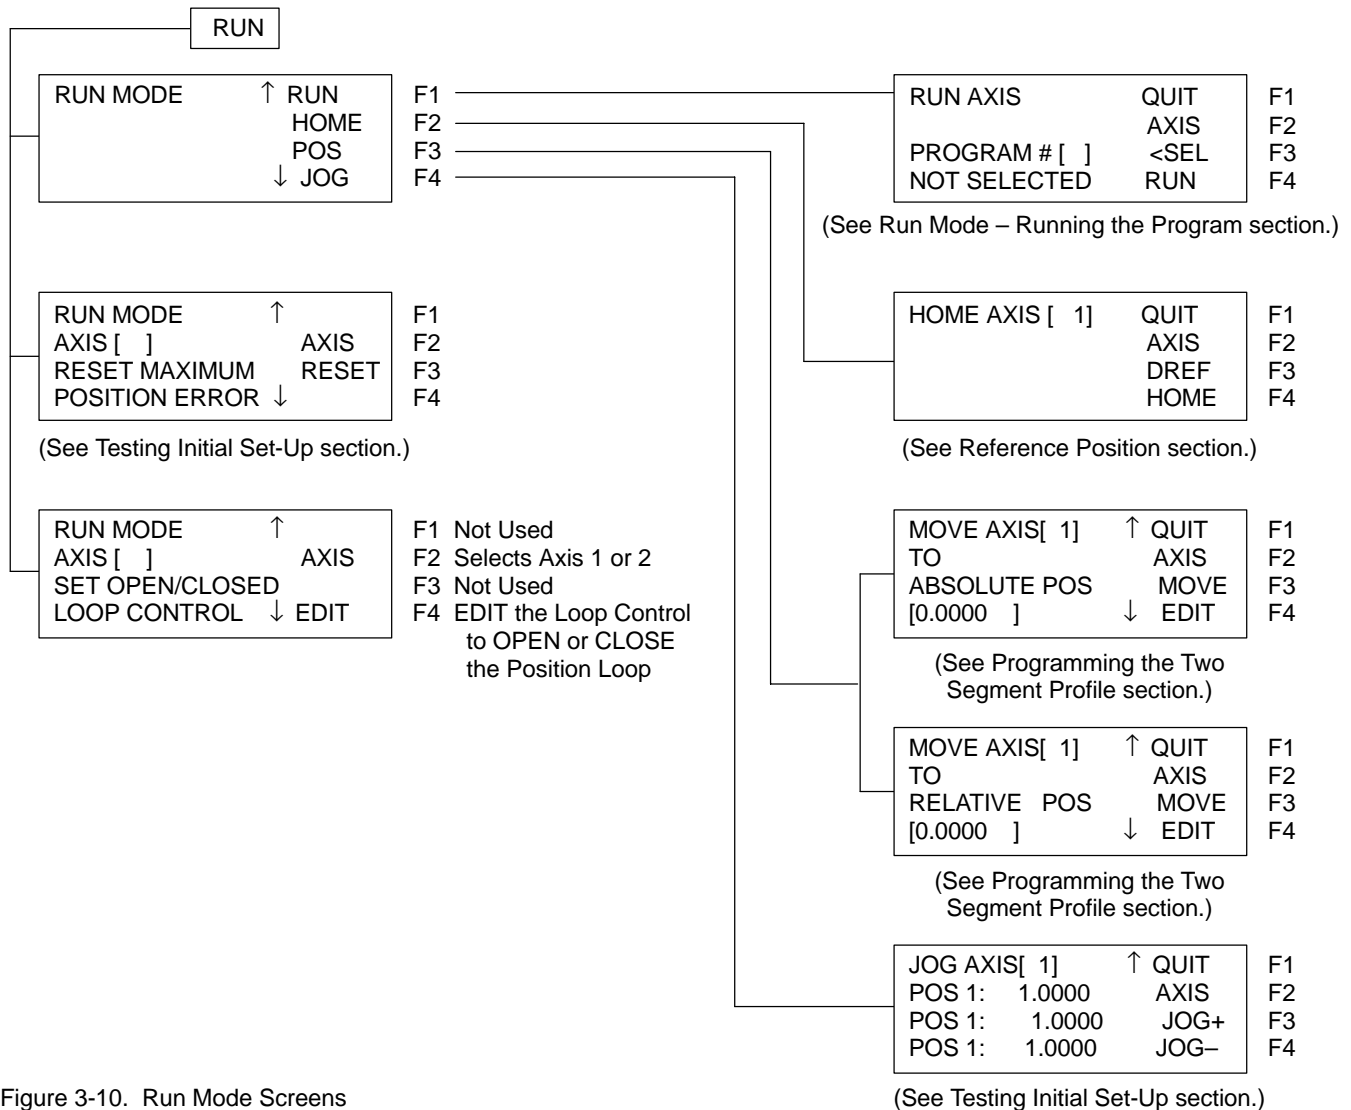

Figure 3-10. Run Mode Screens
- Press RUN mode key and refer to Figure 3-10 for the screens available.